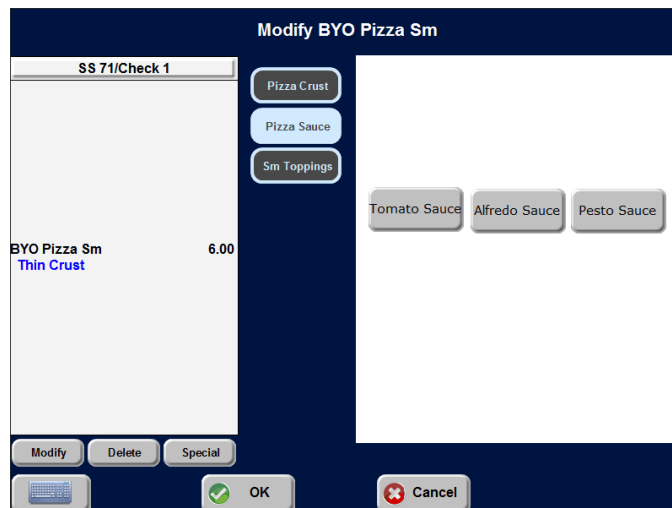

Figure 45 Sauce Modifier Screen for Advanced Pizza
5. Touch a **crust**. The Modifier screen for your choice of sauce appears with a custom modifier panel (Figure 45).